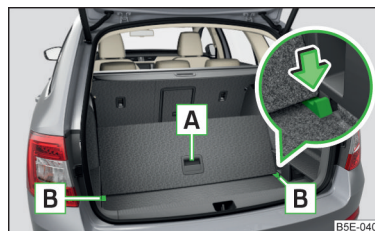

Fig. 121 Dividing the boot with variable loading floor
- › Raise the rear of the variable loading floor by the handle **A** » Fig. 121.